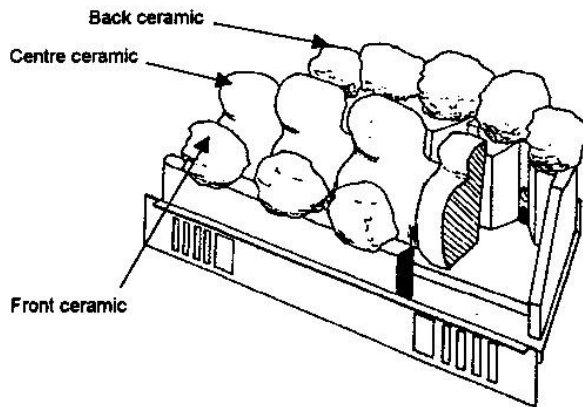

Fig.11 Assembling the ceramic blocks (Theme Plus)
5. Install the ceramics and coals. The ceramic components are fragile and should be handled with care. Refer to Figs. 11 to 14 according to size of appliance for positioning of ceramic fibre blocks and coals.